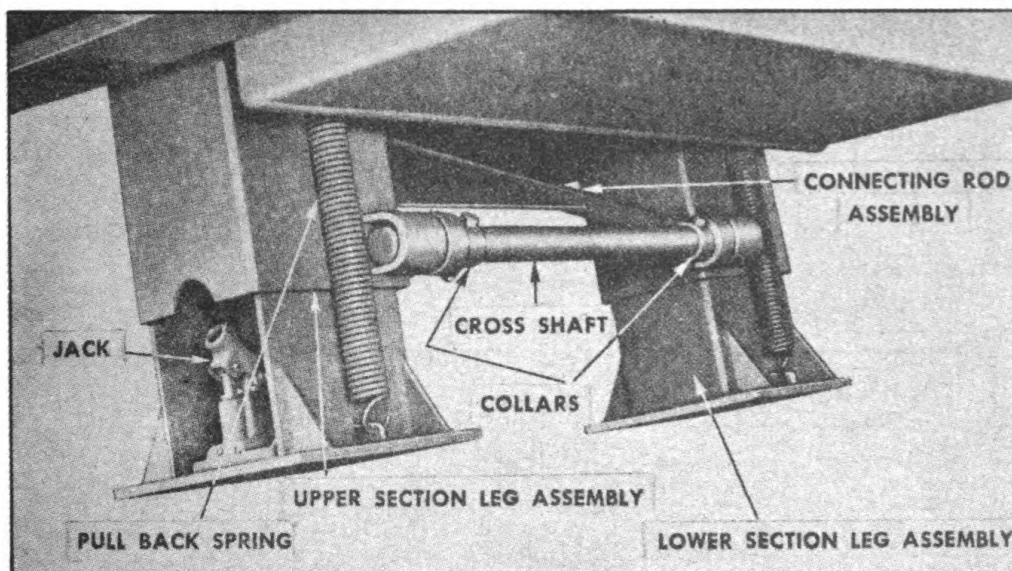

FIGURE 65. SUPPORTS—SEMI-TRAILER
2. REMOVAL OF JACKS.—*a.* Put supports in the “up” position (Figure 65).
4. SUPPORT LEG ASSEMBLY (Figure 65).—*a. Removal.*—(1) Remove bolts from collar on both sides of cross shaft to remove leg assembly.